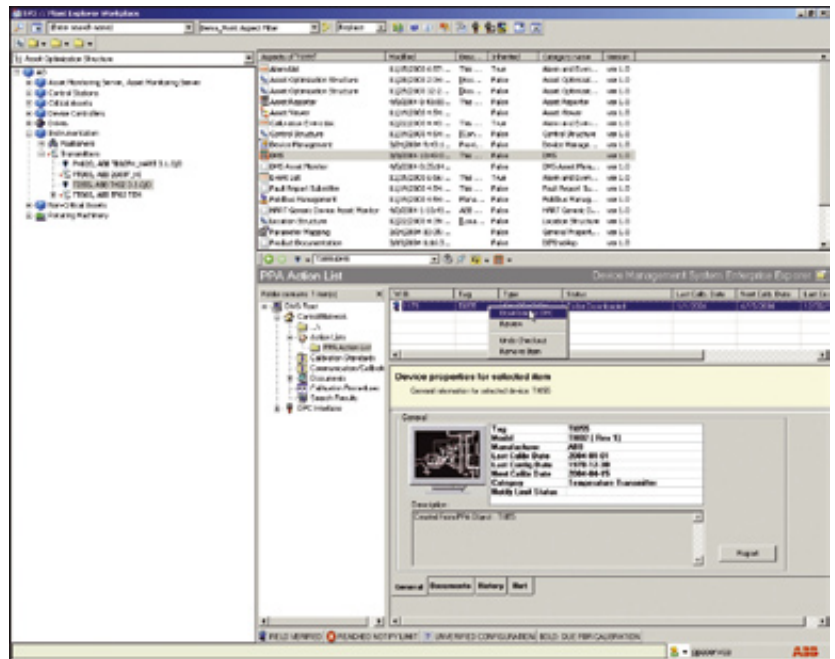

Figure 3. DMS Aspect
7. At this point, a maintenance technician is dispatched to execute the Work Order. Using the hand held HART calibrator / communicator, in-place calibration is possible. The handheld steps the technician through the entire calibration and documents “as found” and “as left” calibration results. These results are stored and available for upload to the system (Figure 3).